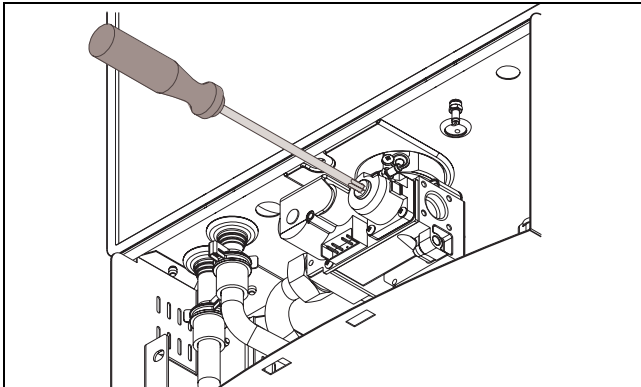

Fig. 59 Adjusting P2 CO₂ level
- ▶ Reinstall Torx protection cover (→ Fig. 59).